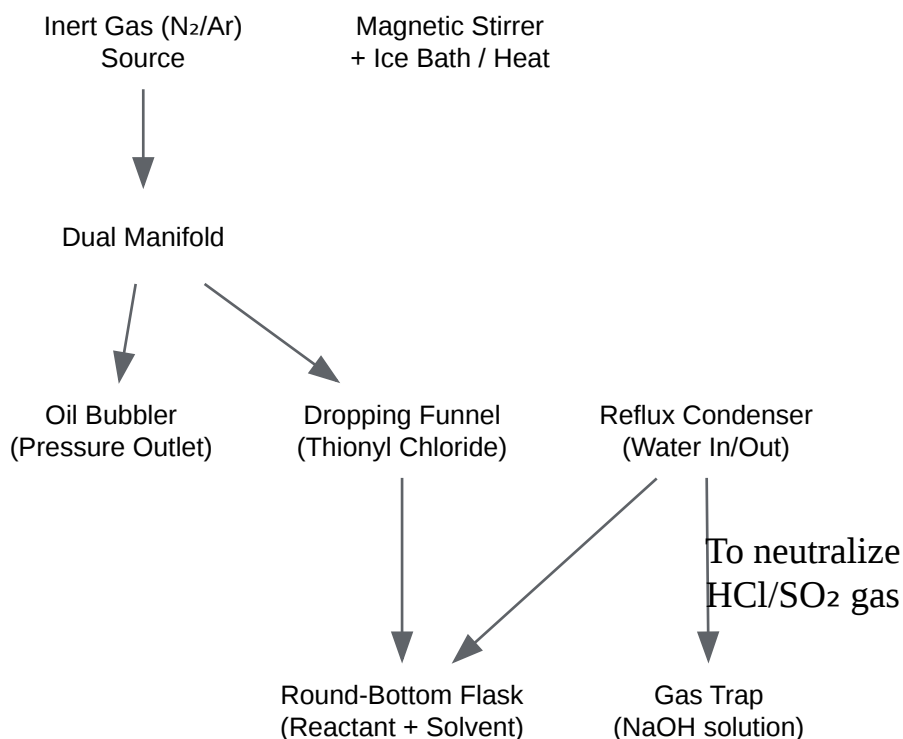

Figure 2: Inert Atmosphere Reaction Setup
Caption: Figure 2: Inert Atmosphere Reaction Setup.
- Preparation: Assemble the oven-dried glassware as shown in Figure 2. Purge the entire system with inert gas (Nitrogen or Argon) for 10-15 minutes. Maintain a positive pressure of inert gas throughout the reaction.